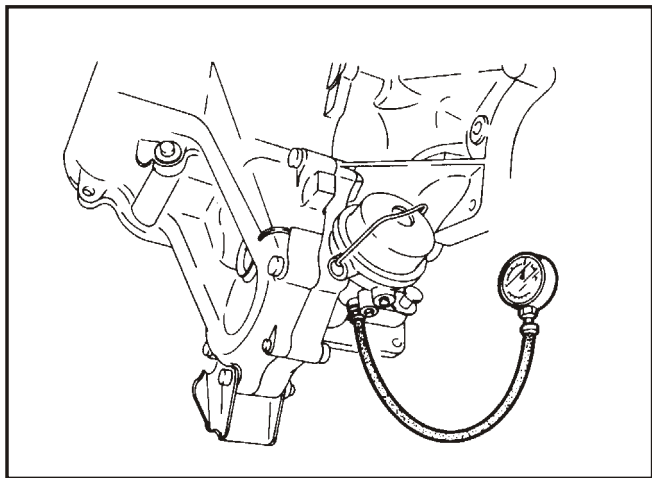

Figure 5
2. Place a pressure gauge on the governor pressure tap (See Figure 5). Drive the vehicle on the road or on the rack and view governor pressure. Governor pressure should be relatively close to road speed. If governor pressure is not correct, replace the governor. If changing the governor does not correct the condition, the governor pressure circuit will need to be investigated. If governor pressure is good, go to the next step.